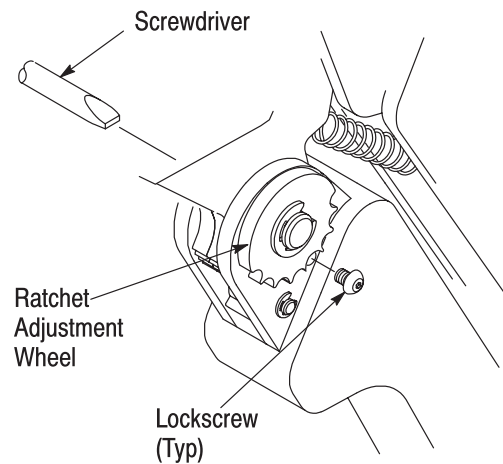

Figure 5
6. RATCHET ADJUSTMENT (Figure 5)